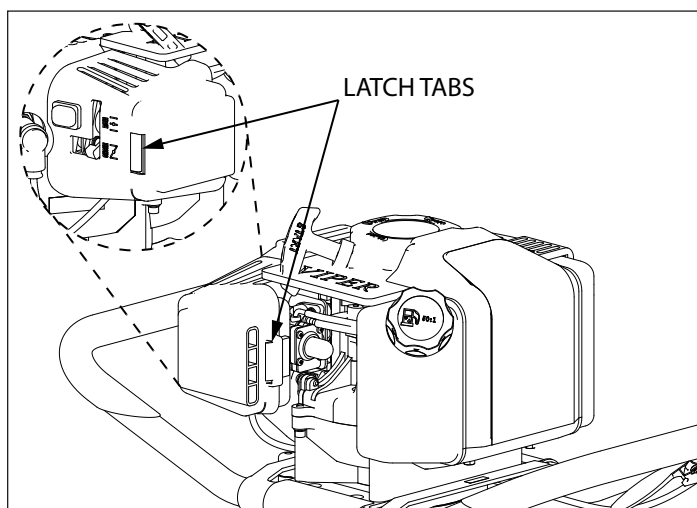

Figure 4
2. To remove air filter cover, squeeze the latch tabs on both sides of the cover. **SEE FIGURE 4.**